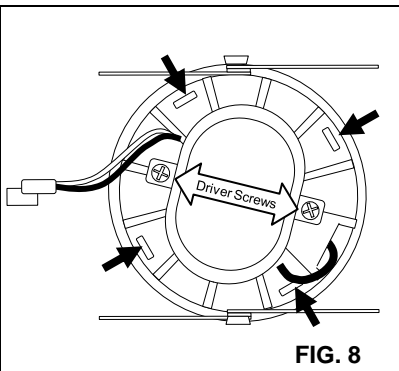

FIG. 8
- Press the four lens tabs in as shown to carefully remove the plastic LENS. (FIG. 8)
- Remove the DRIVER SCREWS and separate the old LED DRIVER from the CAST HEAT SINK. (FIG. 8)
- Mount the new LED DRIVER onto the CAST HEAT SINK using the previously removed DRIVER SCREWS. (FIG. 8)